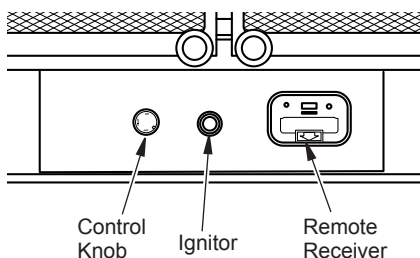

Figure 22 - Heater Control Locations
4. Push in control knob slightly and turn clockwise  to the OFF position (see Figure 22).
5. Wait five (5) minutes to clear out any gas. Then smell for gas around heater and near the floor. If you smell gas, STOP! Follow "B" in the safety information above. If you do not smell gas, go to the next step.
6. Push in control knob slightly and turn counterclockwise  to the PILOT position. Press in control knob for five (5) seconds.